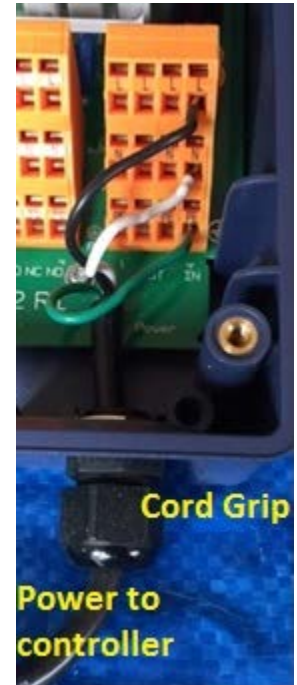

Figure 20 Factory installed power
The two large orange terminal blocks on the right each have 3 levels; **Line**, **Neutral** and **Ground (PE)**. Input power is connected to the right most row of the Power block. See Figure 20.